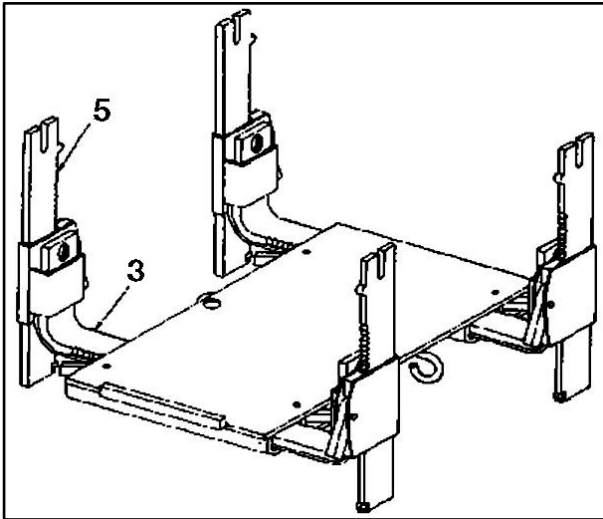

Fig. 11: Adjustable vertical supports
- ① The purpose of the adjustable vertical supports (5) is to provide supports with independent vertical adjustment. A ratchet makes vertical adjustment and locking possible. They are designed to mount over the upright part of the transmission brackets as illustrated in Fig. 11. When mounted in this manner, the top of each of the four adjustable height vertical supports can be independently adjusted in width by using transmission bracket and can be independently adjusted in height by using the ratchet of the adjustable vertical support (5).
Adjustable vertical supports (5) may be used to stabilize a top heavy component that rests on a narrow base. To do this, raise the vertical supports to their maximum height, and push the transmission bracket inward until the vertical supports are in firm contact with the component to be stabilized. Choose from assembly configurations shown in Fig. 11 and Fig. 35.